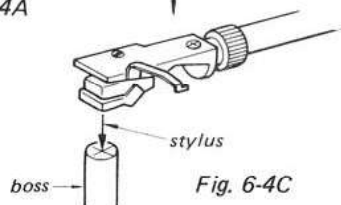

Fig. 6-4C
3. Adjust the position of the cartridge so that the stylus comes on the center of the boss as shown in Fig. 6-4C.